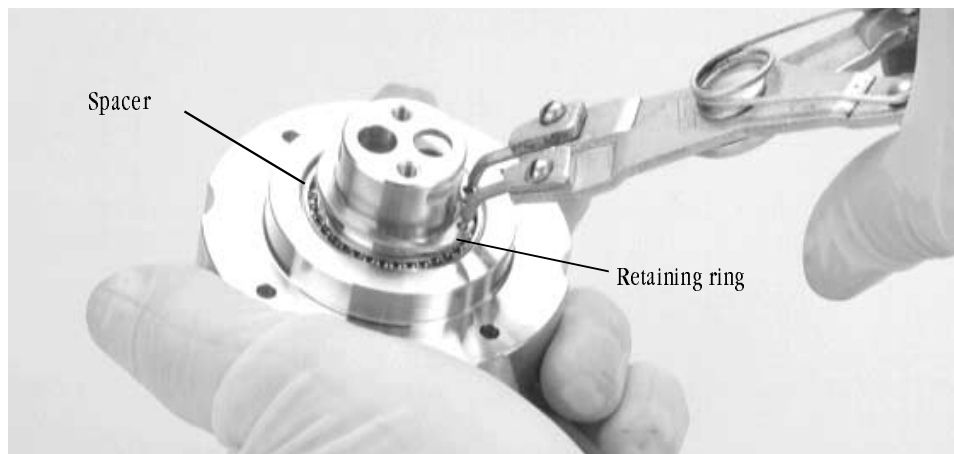

Figure 6-16. Removing the retaining ring
The following procedure describes how the source is disassembled to the point shown in Figure 6-16. At that stage, the only subassemblies left intact will be the emitter assembly, the bearing housing assembly, and the drive assembly. Sections 6.3 and 6.4 describe the disassembly of the bearing housing assembly and the drive assembly, respectively.
Perform the steps described below and refer to Figures 6-16 and 6-17 when disassembling the bearing housing assembly.
Step 2: Using a snap ring tool fitted with correct-sized prongs, spread the retaining ring and remove it from around the pivot shaft (see Figure 6-16).
Step 1: Put the pivot shaft in place inside the bearing housing, making sure that both parts face the correct direction. Figures 6-16 and 6-17 show these parts correctly assembled.